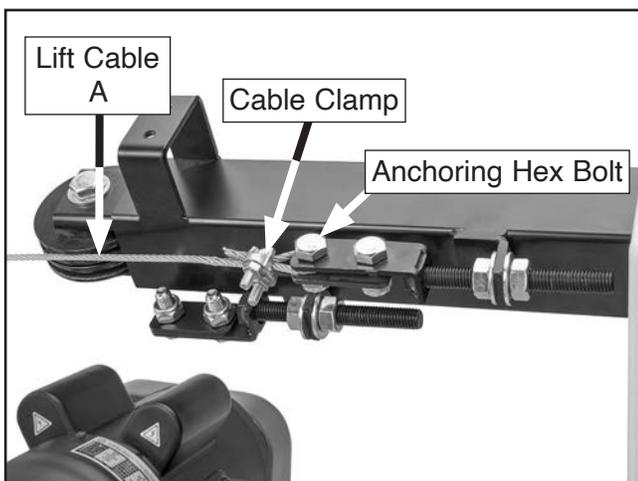

Figure 36. First end of lift cable A secured (switch panel removed for clarity).
35. Loop end of lift cable A around anchoring hex bolt, as shown in **Figure 36**, and secure with (1) cable clamp.